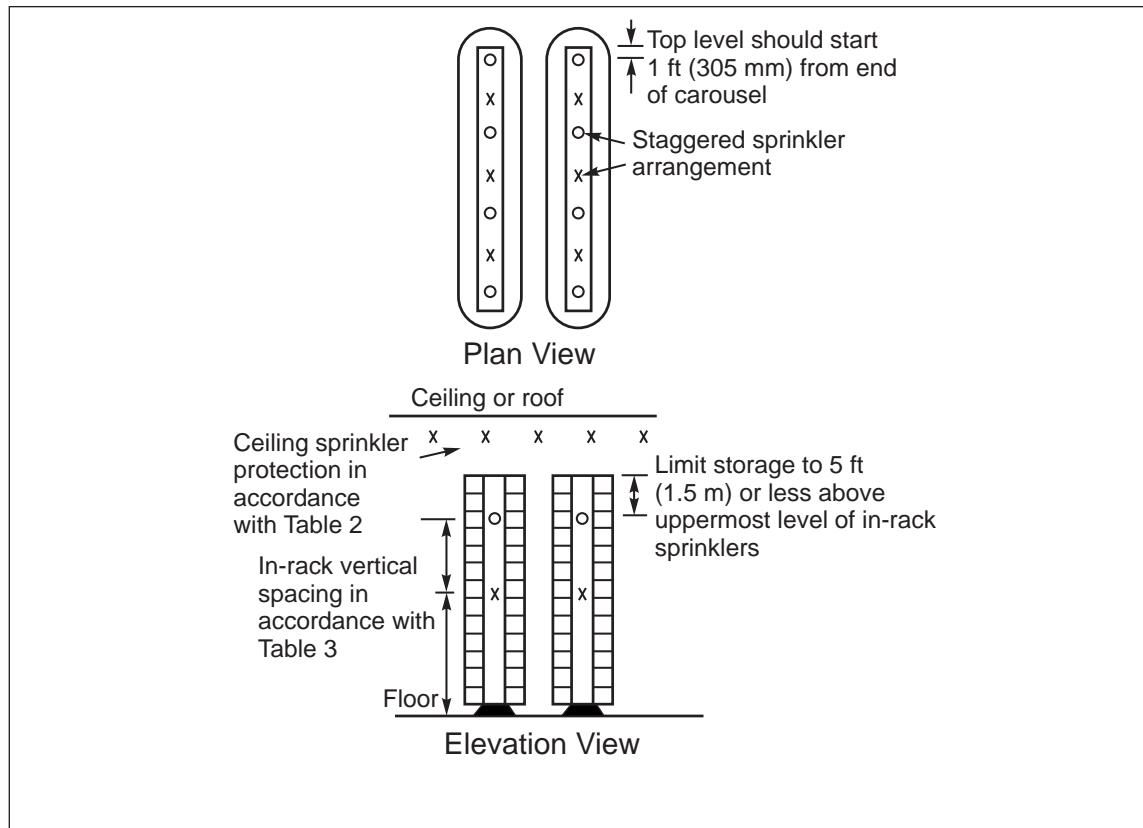

Fig. 2. In-rack sprinkler arrangements.
2.4.2.1 Install in-rack sprinkler protection in accordance with Table 3. Locate in-rack sprinklers in the longitudinal flue (inner flue) space in the center of the carousel (see Fig. 2). Where the inner flue is sheathed, see recommendations under Section 2.4.8.3, Sheathed Flue Spaces.
1. Where in-rack sprinklers are on 7 to 8 ft (2.1 to 2.4 m) maximum horizontal spacings, and multiple levels of in-racks are installed, sprinkler spacing should be on an approximate 4 ft (1.2 m) staggered arrangement between levels (see Fig. 2).
2. Limit storage height above the uppermost level of in-racks to a maximum of 5 ft (1.5 m) (see Fig. 2). Where storage height above uppermost level of in-racks exceeds 5 ft (1.5 m), install an additional level of in-rack sprinklers.
| Open Top Combustible Containers | Class 1-3 | One Level Installed: 6 sprinklers, each flowing 22 gpm (84 l/min) minimum. | | Maximum Vertical Spacing: 5-6 ft (1.5-1.8 m) | Yes— See Figure 2 | ½ or 17/32 in. (15 or 20 mm) 165°F (74°C) | | | |
NOTE 1: Limit storage height above the uppermost level of in-racks to a maximum of 5 ft (1.5 m) — see Figure 2. Where storage height above uppermost level of in-racks exceeds 5 ft (1.5 m), install an additional level of in-rack sprinklers.